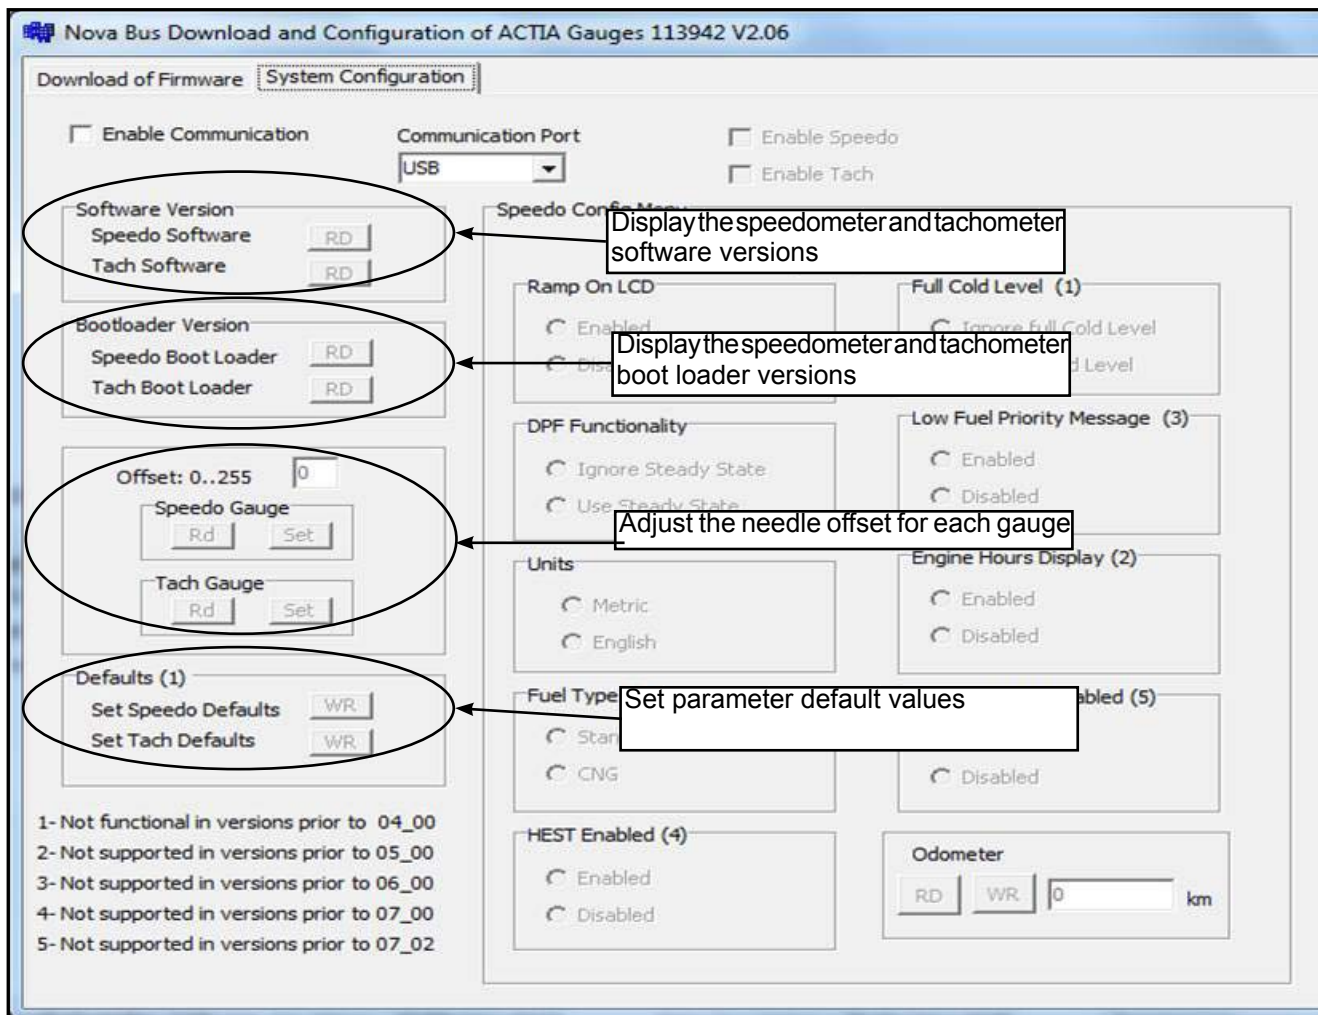

Figure 2 - General Functions
- 2.1. General functions (see Figure 2).